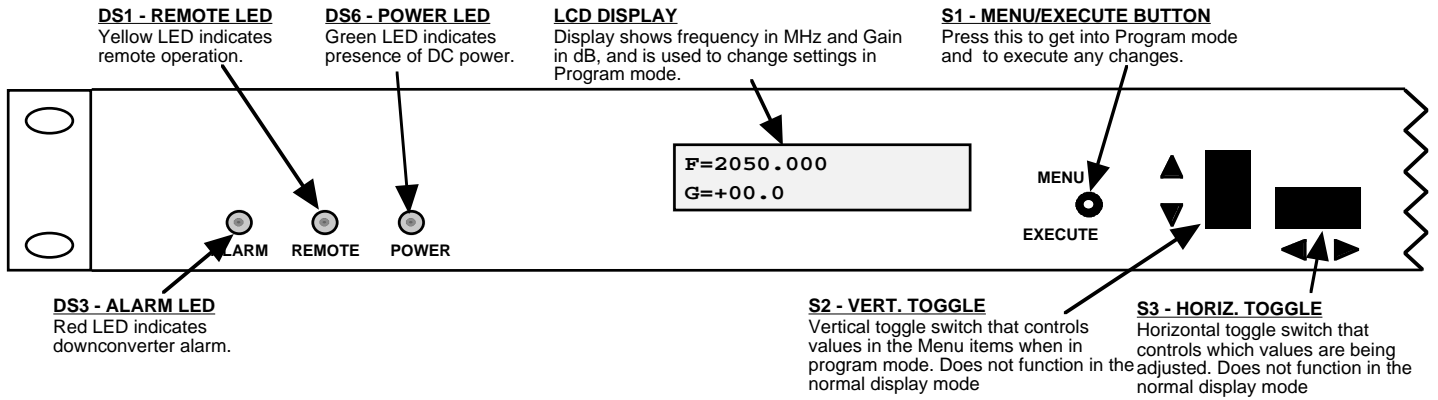

FIGURE 2.3 2016-125 Front Panel Controls and Indicators
Figure 2.3 shows the front panel controls and indicators.
6. Be sure DS6 (green, DC Power) is on and DS2 (red, Alarm) is off (Figure 2.3).
7. **AC Fuse** - The fuse is a 5 mm X 20 mm, 2 amp slow blow (Type T) and is inserted in the far slot in the drawer below the AC input as shown in Figure 2.3. There is a spare fuse in the near slot. If a fuse continues to open, the power supply is most likely defective.